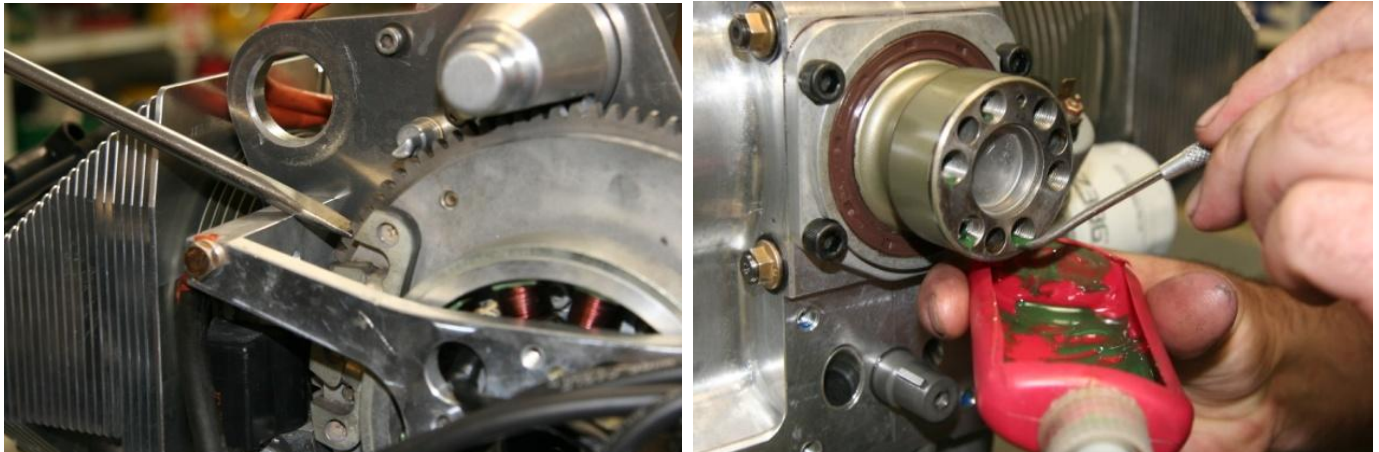

Figure 193 – Preparing To Fit Propeller Flange
- Fill the seal with high temperature grease or commercial seal lube and fit the housing to the engine as shown in Figure 193 (right). Note the orientation of the housing. Use 4 off 5/16" cap screws with Loctite 243 on the threads. Note that earlier engines used 1/4" screws. Either type assembly is acceptable.
- A second person is necessary to hold the crank so that it does not rotate while tightening these screws. Figure 193 (left) shows a screwdriver being used to hold the ring gear on the flywheel, locking the crank. Alternatively a finger bar (Figure 28) may be used. The second person will also need to help hold the engine steady. Trying to do this job alone is impractical and may compromise the job, resulting in an in-flight failure.